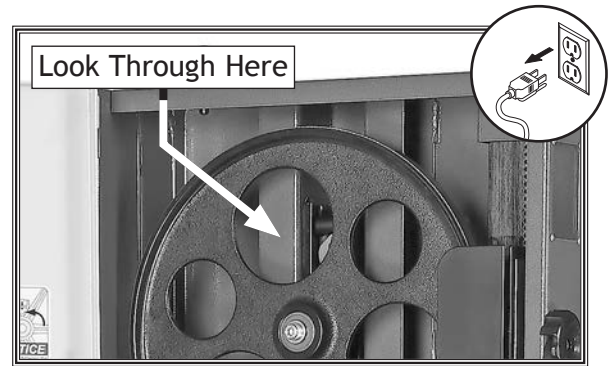

Figure 84. Location of blade tension adjustment assembly.
2. Open upper wheel cover and look through top of wheel (see **Figure 84**).